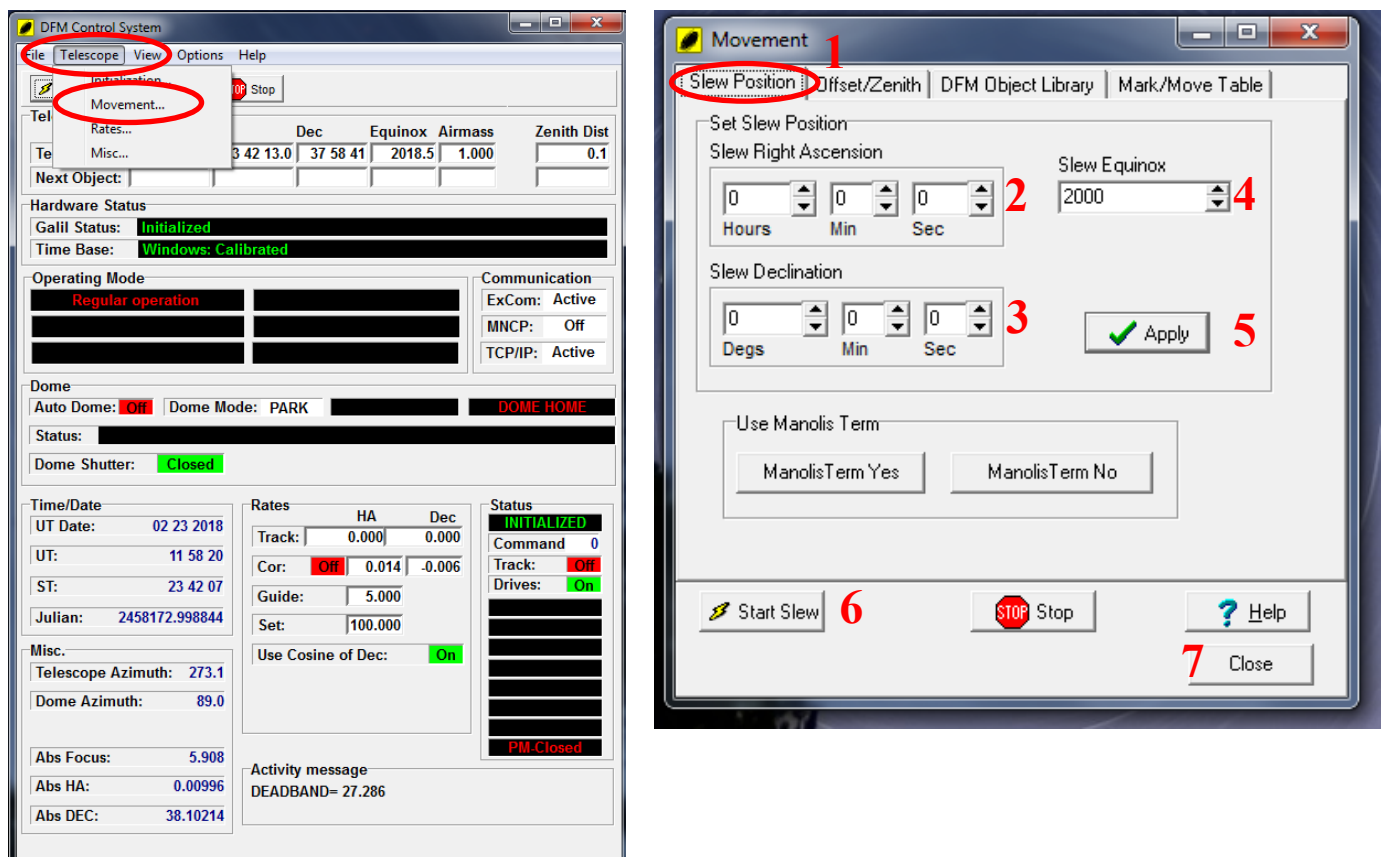

Fig. 2.23. Sending the telescope to a defined position using the DFM software.
1. Click on the “Telescope” tab and select “Movement” (Fig. 2.23 left). The “Movement” window opens by default in the “Slew Position” menu (Fig. 2.23 right No 1).